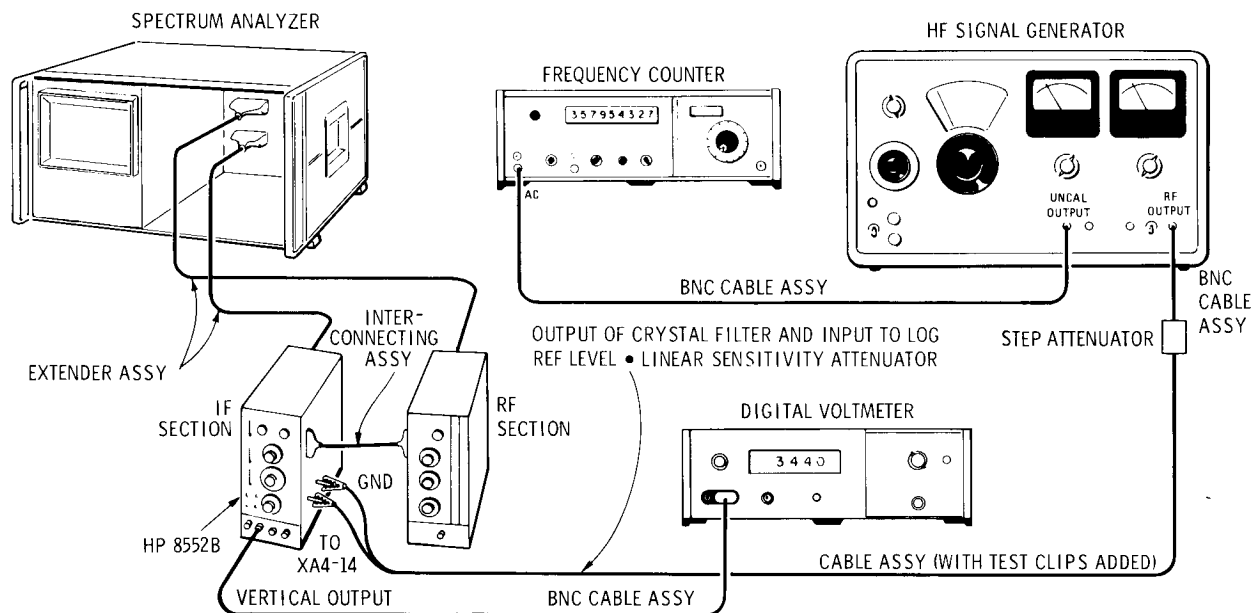

Figure 5-6. Log-Linear Amplifier Check and Adjustment Test Setup
2. Make the following control settings and then connect the test setup shown in Figure 5-6.